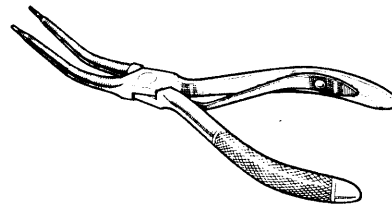

Fig. 4
- Withdraw the internal ring (closing pliers, 100001) (fig. 4).